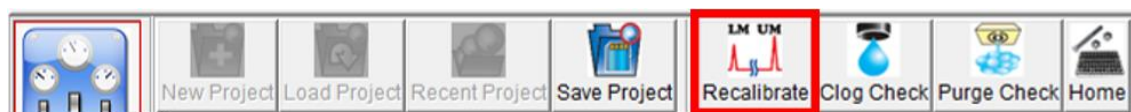

Figure 3-15 Recalibrate on the Toolbar
Step3. Click **Recalibrate** on the Toolbar and follow the on-screen instructions (Figure 3-15)